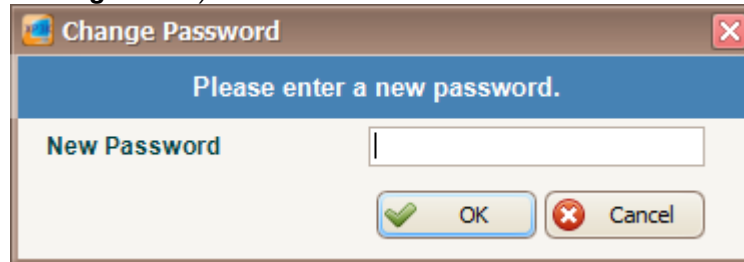

Figure 271 - Enter New Password
3. Enter your new password and confirm your new password by entering again the password. Click OK to proceed (Refer **Figure 271**).